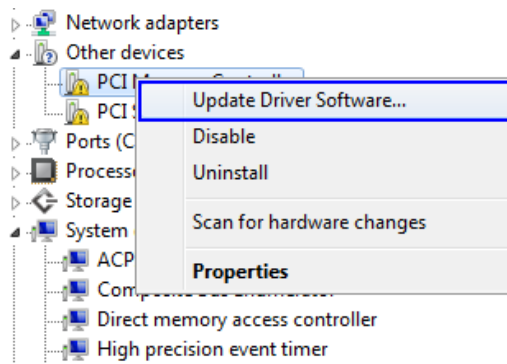

Figure 2.2. Popup Menu for Driver Update
2. Right click “PCI Memory Controller”, and select the “Update Driver Software...” menu item (as shown in Figure 2.2).